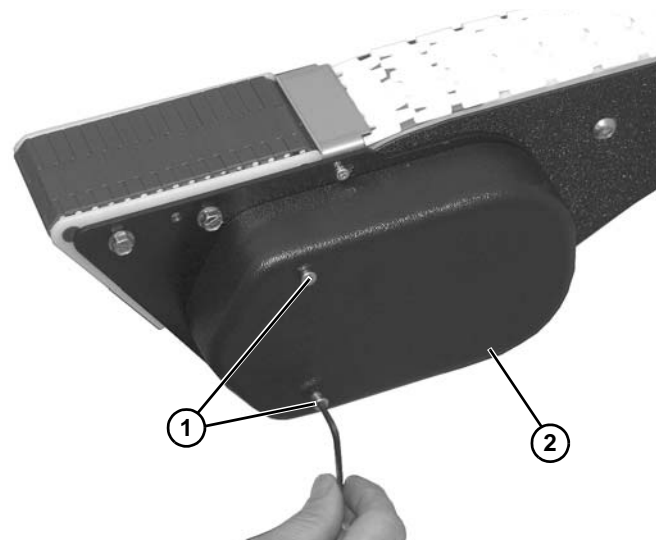

Figure 160
1. Remove two socket head screws (**Figure 160, item 1**) and cover (**Figure 160, item 2**) from power transfer assembly.